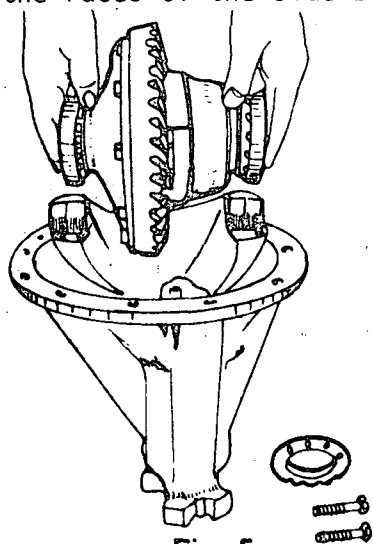

Fig. 5
- Replace the external races of the bearings and install the cage into the differential carrier (fig. 5).